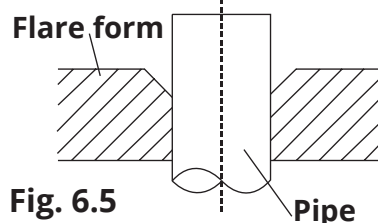

Fig. 6.5
- Clamp the flare form on the end of the pipe to be flared. The end of the pipe must extend beyond the flare form. Please refer to **Fig. 6.5** below.